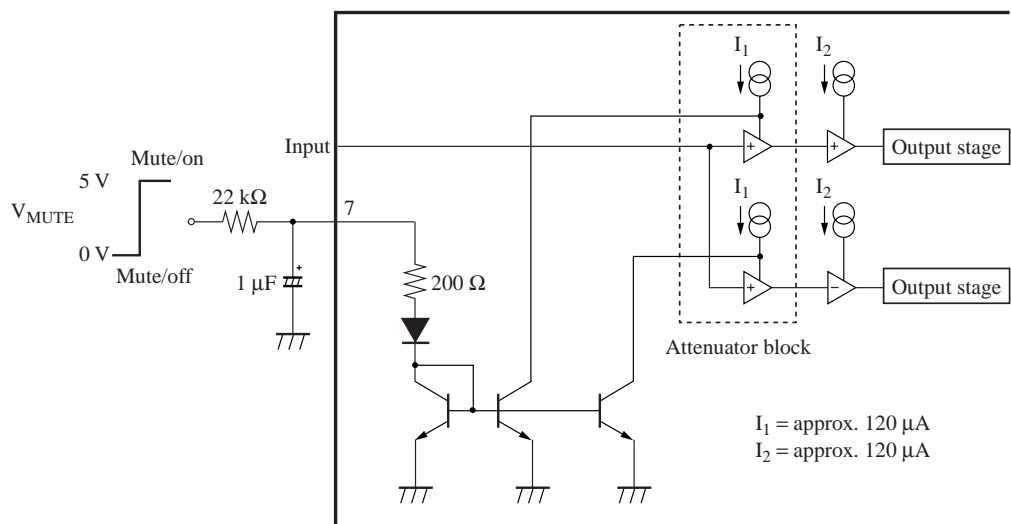

Figure 7
- (1) The mute-On/Off is possible by making pin 7 (the muting terminal) high or to low.
- (2) The muting circuit is as shown in Figure 7. The amplifier gain including attenuator block is given in the following equation:
(4) Attack time and recovery time can be changed by the external CR of pin 7. For recommended circuits (Figure 7 22 kΩ , 1 μF), the above mentioned times are as follows: